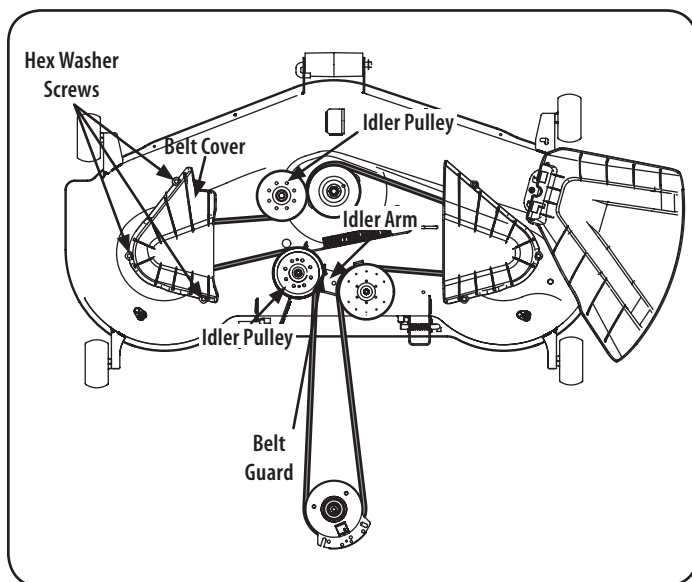
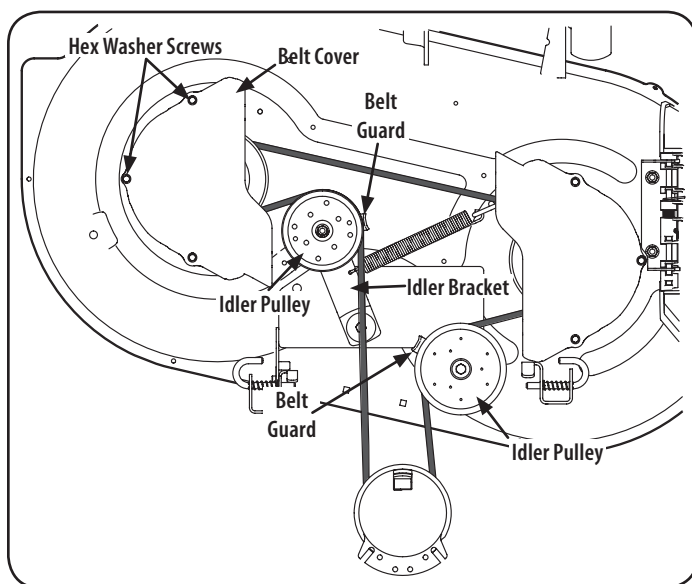

Figure 35
Figure 36
2. Remove the hex washer screws securing the belt covers to the deck. See Figure 35 for 54" Decks and Figure 36 for 42" Decks.
- c. Install the new belt around the spindle pulleys as shown and reinstall the belt covers. See Figure 35.
- e. Route the belt as shown in Figure 35 and then reinstall the deck (refer to Deck Installation).
- c. Install the new belt around the spindle pulleys as shown and reinstall the belt covers. See Figure 36.
- e. Route the belt as shown in Figure 36 and then reinstall the deck (refer to Deck Installation).